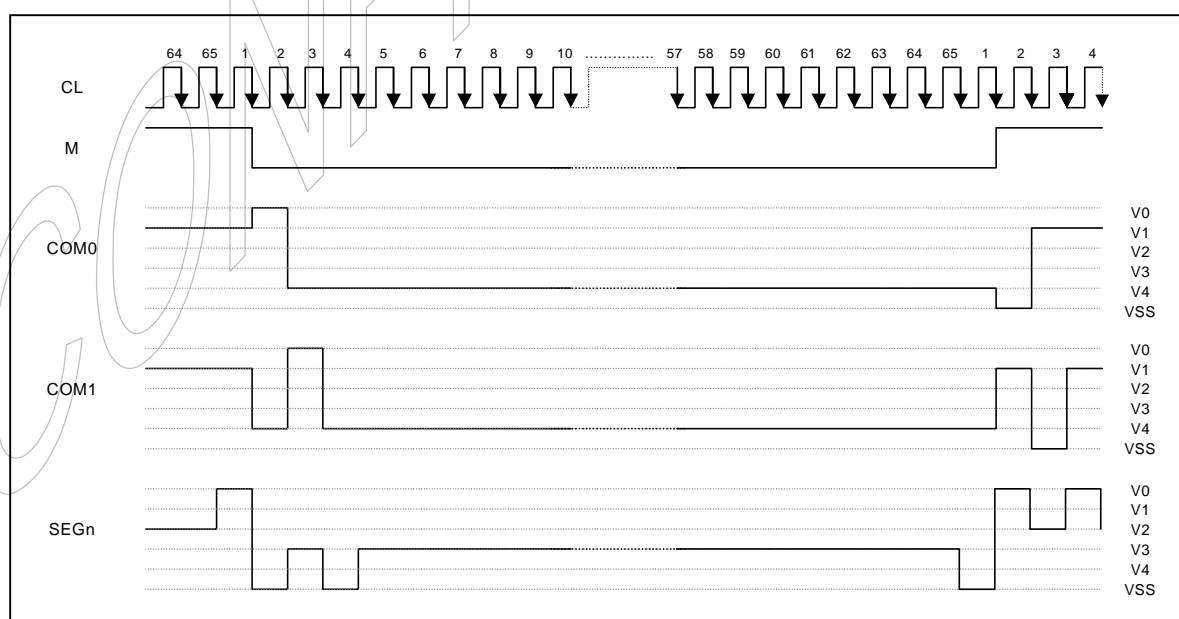

Figure 6-7. 2-frame AC driving waveform (Duty ratio = 1/65)
This circuit generates timing signals to be used for displaying LCD. The display clock (CL) is generated by oscillation clock and CL generates the clock for the line counter and the signal for the display data latch. The line address of DDRAM is generated in synchronization with CL. The 132-bit display data is latched in the display data latch circuit synchronized with CL. Reading to the display data liquid crystal driver circuit is completely independent of access to the DDRAM by the MPU. The display timing generator circuit generates an LCD AC signal (M) which enables the LCD driver to make a AC drive waveform, and also generates an internal common timing signal and start signal to the common driver. Driving 2-frame AC driver waveform and internal timing signal are shown in figure 6-7.